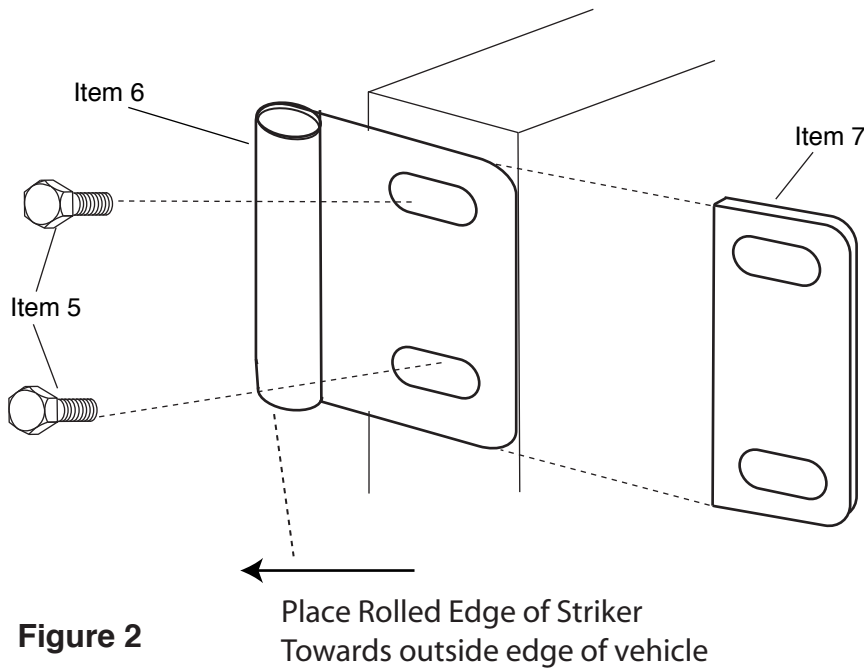

Figure 2
Step 2. Door Striker. You will need to replace the original door strikers on your vehicle. **CAUTION:** Do not remove both of the bolts holding the striker at the same time, as this will cause the backing plate inside of the door post to fall to the bottom of the door post. This will make the backing plate almost impossible to retrieve. The proper technique is to remove one bolt, loosen the other bolt, pivot the striker so that the hole for the bolt which was removed is exposed, and reinstall that bolt. Then remove the other bolt and the striker. To install the new striker (Item 6), start the new bolt (Item 5) through the striker and into the backing plate inside of the door post, remove the remaining old bolt, pivot the striker into place, and install the other new bolt. Both bolts may be tightened at this time. Repeat for other side. You may have to install the door striker shims (Item 7) later in order to make the door latch properly. Use the same technique to do this. See figure 2.
Step 3. Fitting Door In Opening. Each door has two hinge hooks on the lower half of the door, which fit into the body portion of the original equipment hinges for the hard doors. If you have these hinges on your vehicle, you will need to drive out the hinge pins and separate the body hinges from the door hinges. **If you do not have these hinges, you will need them or an STC hinge kit (part number 222-326) which is not furnished with this door kit. The STC hinge kit contains a set of body hinges for these soft doors and the bolts to install them.** Insert the hinge hooks into the body hinges. Close the door and check the fit of the paddle handle latch to the striker. The latch should just clear the flat portion of the striker and should latch solidly against the rolled portion of the striker. The striker can be moved in or out by loosening the mounting bolts and sliding the striker plate in or out as needed. If there is too much clearance between the end of the latch and the flat part of the striker, you may need to install the striker plate shims (Item 7) between the door post and the striker plate. See figure 2 and step 2. You can also adjust the position of the latch in relation to the flat part of the striker by loosening the bolts which attach the paddle handle to the door and sliding the paddle handle towards the front or the rear of the vehicle. This adjustment is for a minor distance. Slide the pegs on the upper half of the door into the tubes on the lower half of the door. Make sure that they are fully seated into the tubes. Press the hook and loop together at the outside of the door. Due to inconsistencies in manufacturing of the vehicle and door frames some minor bending of the door may be necessary to obtain the proper fit.